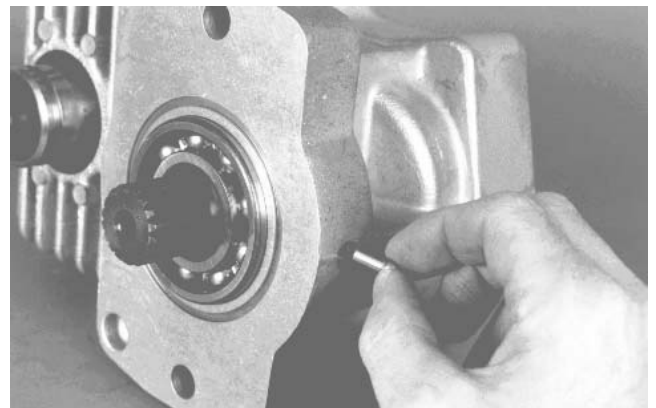

Figure 63
11. Install motor shaft bearing retaining pin into housing (Fig. 63).